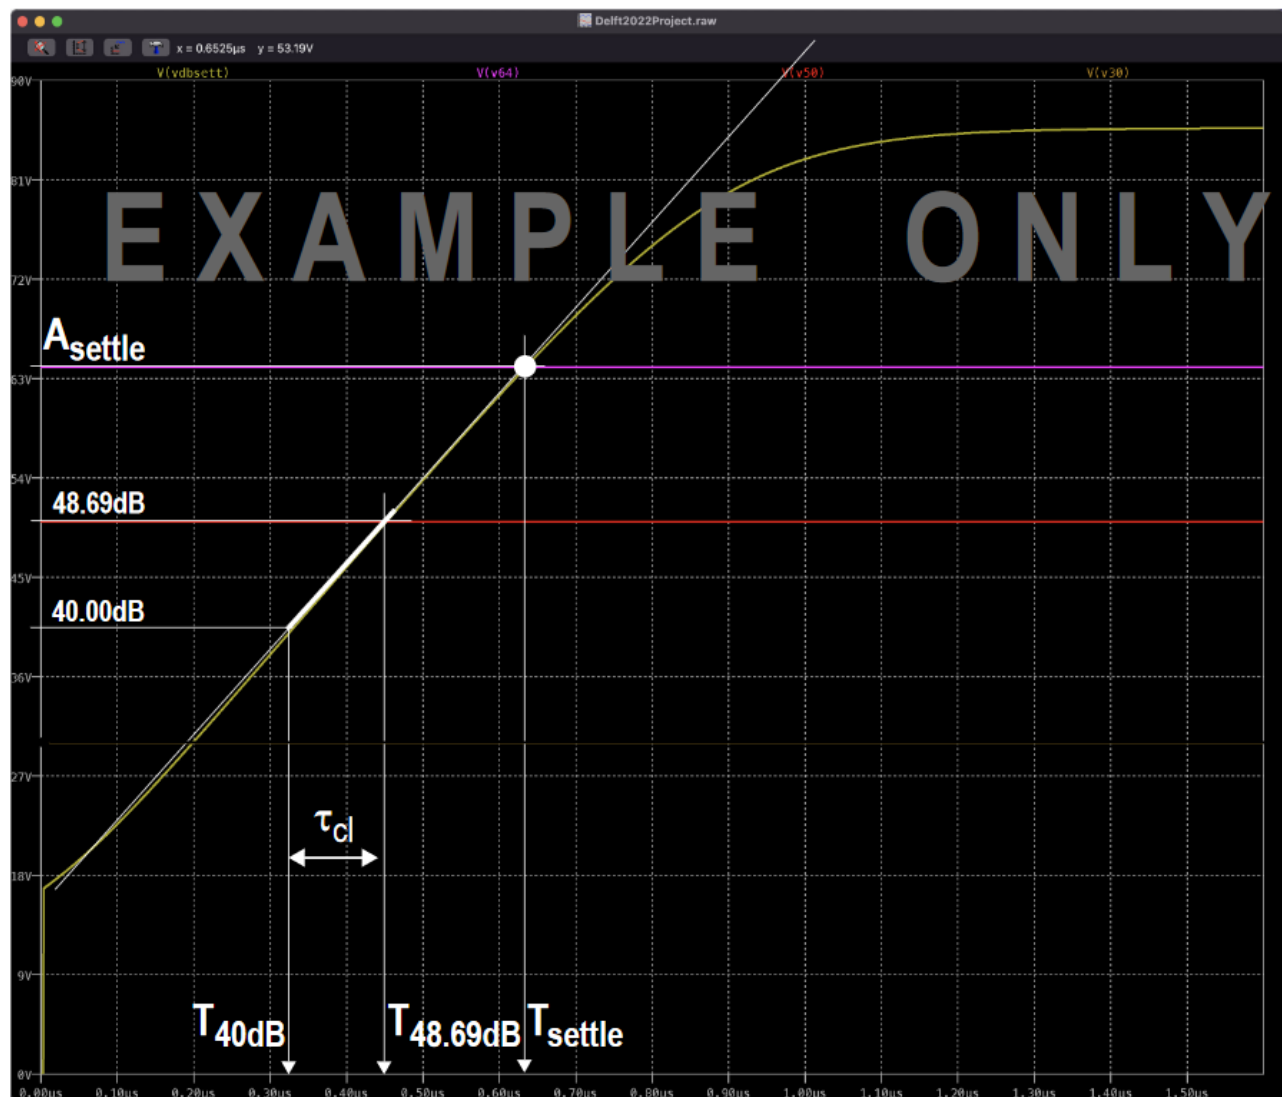

Fig.12. Settling curve with times indicated.
- 7) Plot of settling accuracy versus time, showing T_{settle} , T_{40dB} and $T_{48.69dB}$ (fig. 12).